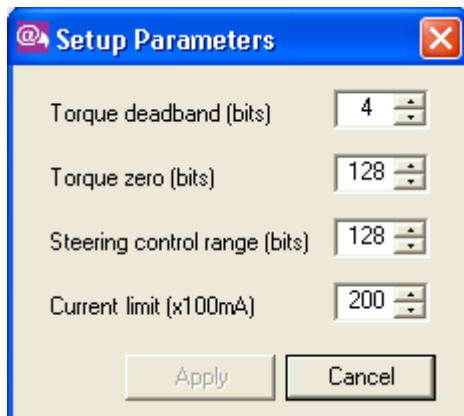

Figure 5 - Setup Parameters Dialog
1. Select the **Setup** → **Parameters** option from the main menu. The Setup Parameters dialog (Figure 5) is displayed.